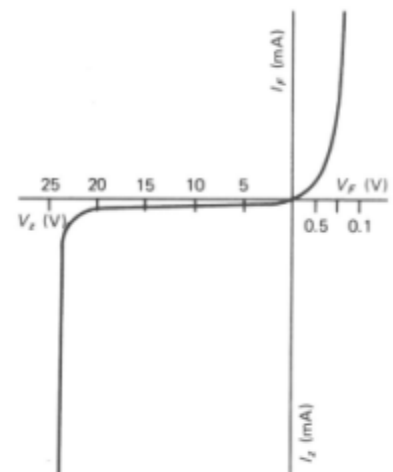

Fig. 2-2.
- Compare the characteristic of Chart 2-1A with the characteristic of Figure 2-2 which represents the theoretical characteristic of a zener diode. Explain the differences.
- a. The most noticeable differences between the two graphs are that the zener voltage in Figure 2-2 is much higher than that of Chart 2-1A, this means a different diode was most likely used. Another noticeable difference is the quality of the diode, it is easy to tell that Chart 2-1A has much sharper turning points to when the zener diode is activated while in Figure 2-2 the turning points have much smoother curves which means that it took longer for the zener diode to activate and the voltage didn't stay as consistent as the voltage on the zener diode that we used.